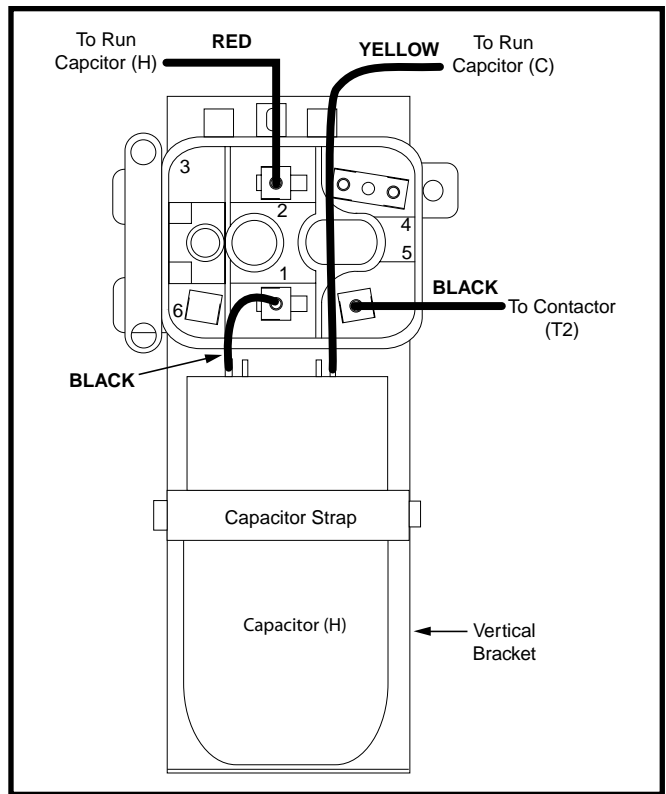

Figure 2. Vertical Bracket Installation
- For Single Package Series Air Conditioners and Heat Pumps use the vertical bracket as shown in Figure 2.